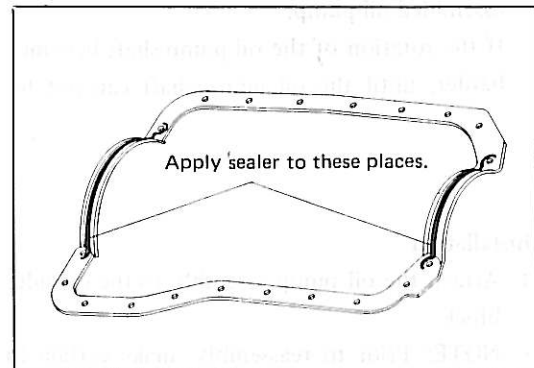

Fig. 6-26 Sealer Applying Procedure (Oil Pan Side)
- (2) Apply the sealer to the oil pan gasket at its oil pan side, as shown in Fig. 6-26. Then, place the oil pan gasket onto the cylinder block.